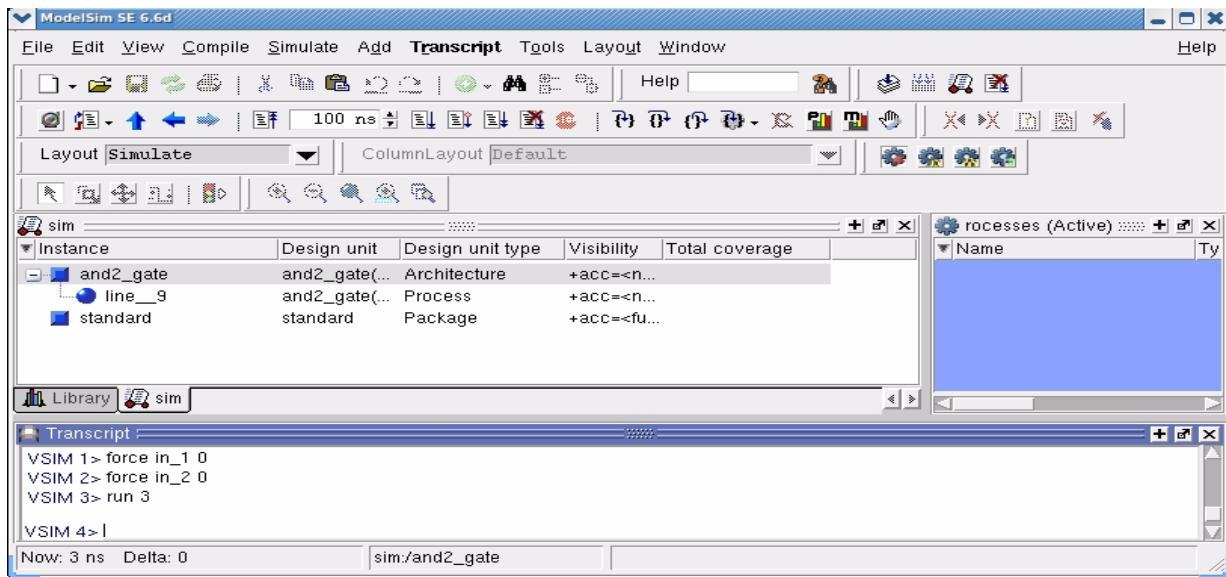

Figure 4: Issueing a force command from the Simulation window.
(5) One can manually assign values to signals using the **force** command. This command is issued from the Transcript portion of the Simulation window. Enter the following commands from the bottom portion of the Simulation window as shown in Figure 4: